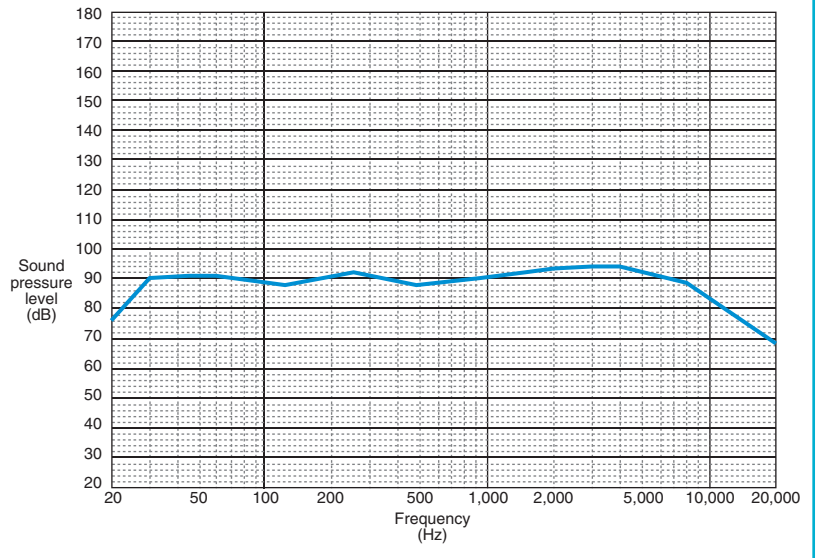

Figure 3: The in-room response of both enclosures is shown here.
(IM) distortion with that amount of bass excursion, yet the midrange is clear, the imaging is superb, and the treble sparkles when it should. The A3S drivers produce a high-performance full-range system without the need for a crossover network, at a fraction of the cost of a comparable factory-built system. **Figure 3** shows the room response of both enclosures with all tone controls flat.